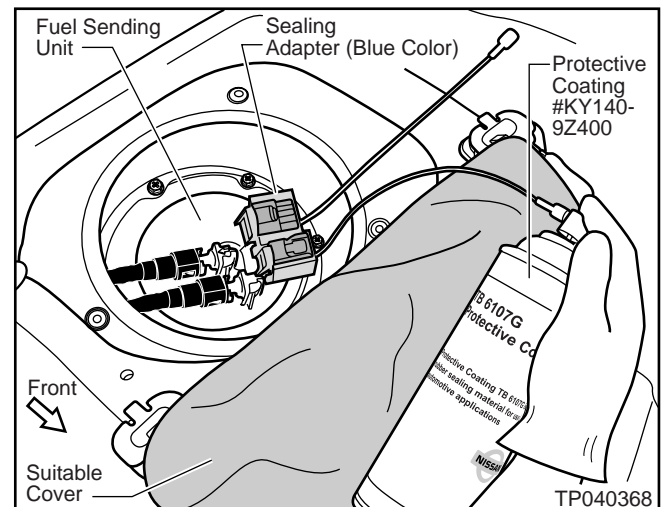

Figure 25
3. Spray the Protective Coating #KY140-9Z400 through each Adapter Tube for about two seconds (see Figure 25).